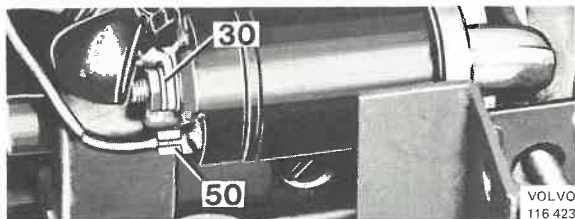

Fig. 33-5. Starter motor electrical connections
- Remove the cables from the starter motor, Fig. 33-5.